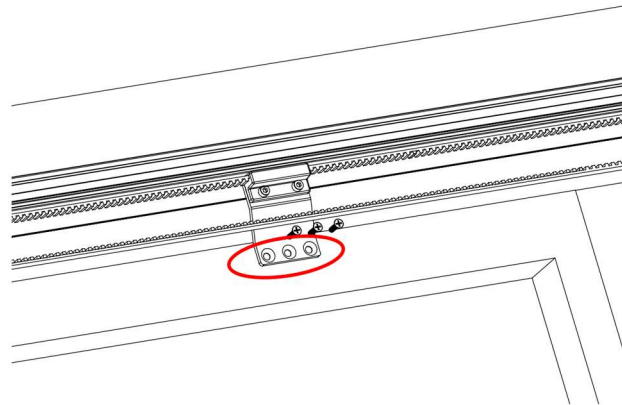

Figure 39: The top bracket position.
1. **Open** both doors fully. Fit the top bracket onto the top loop of the belt (Figure 39) at the position you marked on the left-hand door earlier.
3. Mark the three bracket holes on the door (Figure 39) then drill 0.24" (6 mm) holes in the door at those positions.